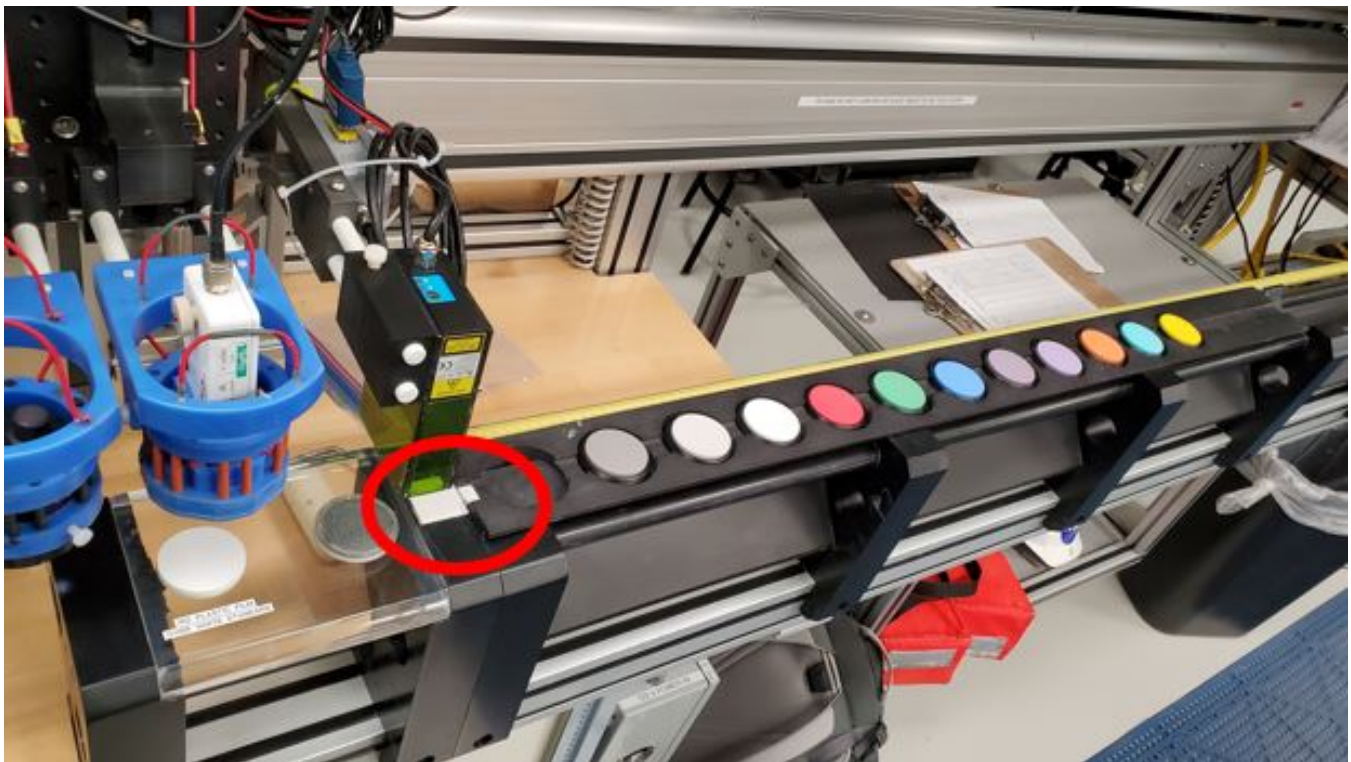

Figure 14. Color Reflectance Control Set on SHMSL track. The white square on the end of the standard holder should be against the white benchmark (red circle).
1. Set the standard holder on the track as seen in *Figure 14*.
- a. The standard holder has a white block on one end. This white block should be against the white benchmark on the track for proper positioning (*Figure 14*, red circle).